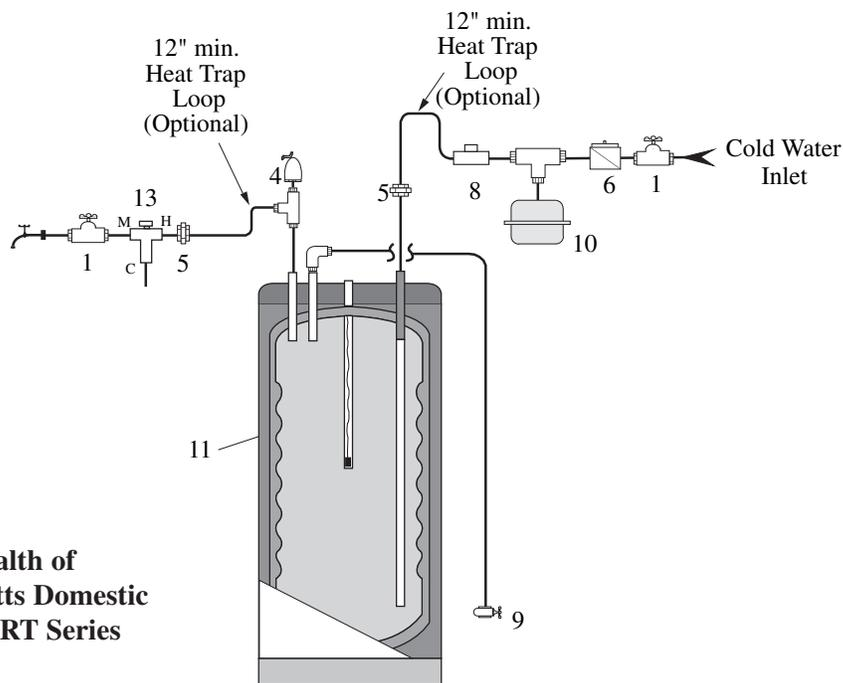

Fig. 3B: Commonwealth of Massachusetts Domestic Piping SMART Series
- Install a 3/4" NPT elbow to the Auxiliary connection, see Fig. 3B page 9